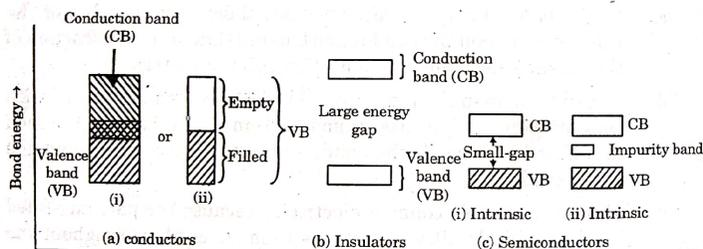

Fig. 1.15.1. Energy band in (A) Conductors (B) Insulators and (C) Semi-conductor.
- As can be seen in the Fig. 1.15.1(A), electrons can easily (*i.e.*, with very little energy input) be promoted from filled orbitals in the band to unfilled orbitals in the band, and hence move throughout the metal solid.
- b. Intrinsic semiconductors (like Si or Ge) are having small energy gap between the filled valence band (VB) and empty conduction band (CB) as shown in Fig. 1.15.1, sufficient to promote an electron from VB to CB.
- f. Doping means treatment of Si and Ge (typically semiconductors) with impurity atoms of Group (III) and Group (V) giving respectively *p*-type and *n*-type extrinsic semiconductors.